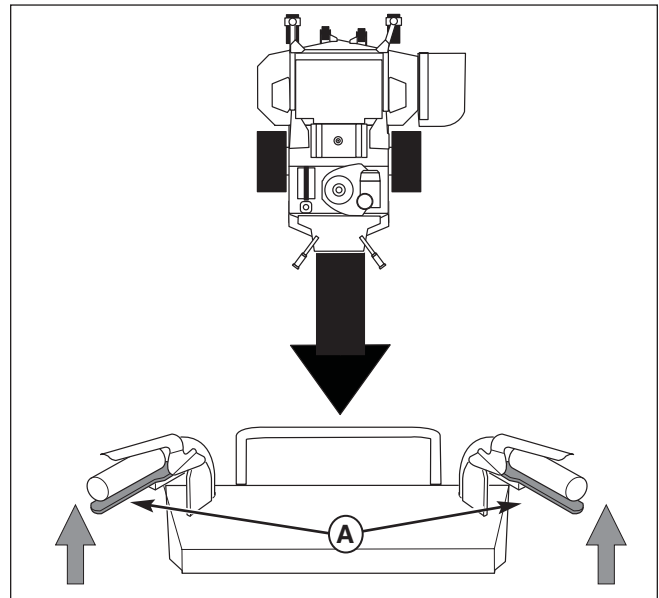

Figure 12. Reverse Travel.
### TO MOVE BACKWARD (See Figure 12.)
2. Gently squeeze both reverse speed control levers (A, Figure 12) evenly, until desired speed is achieved.